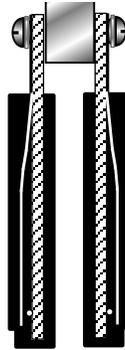

Figure 6
- Slide the grips onto the lever assemblies as far as they'll go (Figure 6). You'll need to compress the levers in order to slide them into the grips. The grips pre-tension the levers, placing them a small distance from the silver-wire contacts (the levers and contacts are shown in Figure 6 for reference). The contact spacing can be adjusted, if necessary, in a later step.